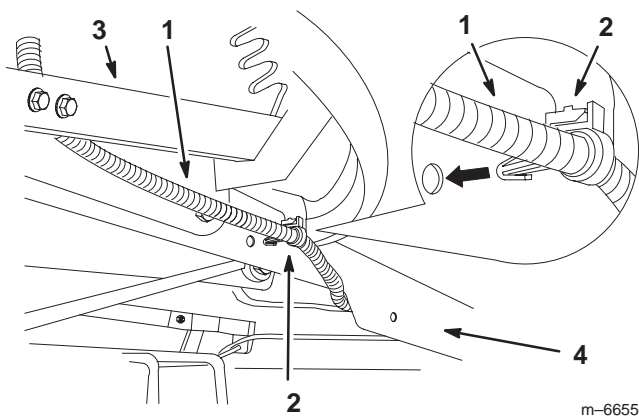

Figure 6
4. Route the harness along the right side of the footrest and under the height-of-cut lever (Fig. 6).
5. Install the wire harness clips into the holes in the side of the frame (Figures 6 and 7).